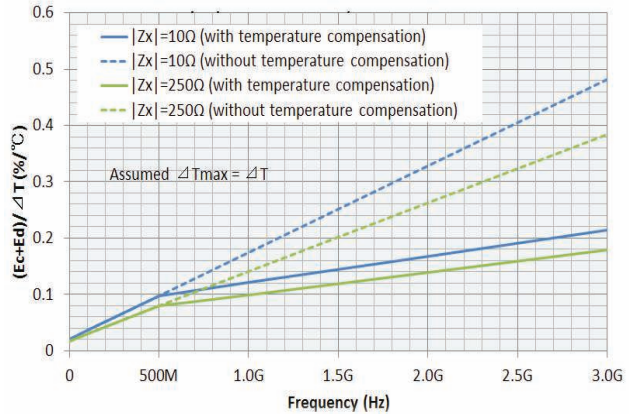

Figure 35. Typical frequency characteristics of temperature coefficient,  $(E_c+E_d)/\Delta T$ , when  $|Z_x|= 10 \Omega$  and  $250 \Omega^2$ .
1. See graphs in Figure 35 for the calculated values of  $(E_c+E_d)$  exclusive of the hysteresis errors  $E_{ah}$ ,  $Z_{sh}$  and  $Y_{oh}$ , when measured impedance is 10 Ω and 250 Ω.